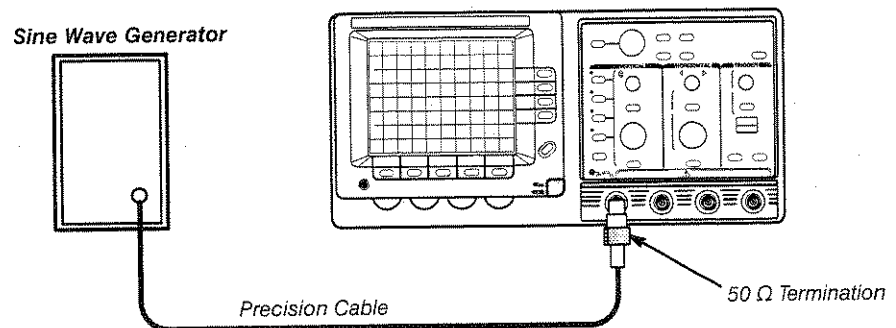

Figure 6-14: Trigger Sensitivity Test Setup (Three)
1. Remove the 10X attenuator from the test setup. Reconnect as shown in Figure 6-14.